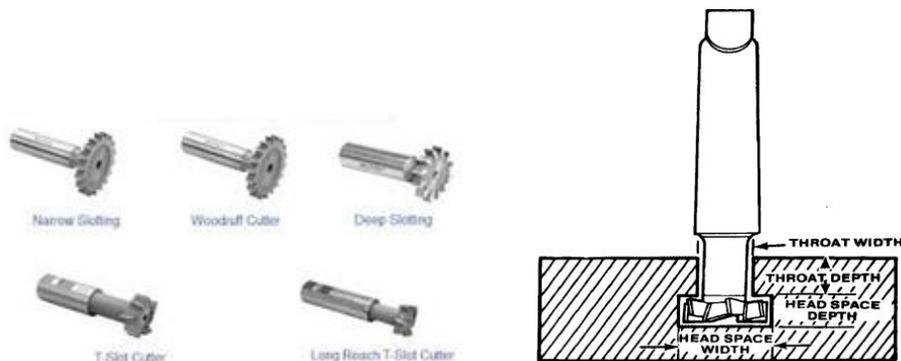

Figure Mill-14: T-slot milling process and cutters
4. Change cutting tool with a suitable T-slot cutter to execute the required T-slot. See figure Mill-14.